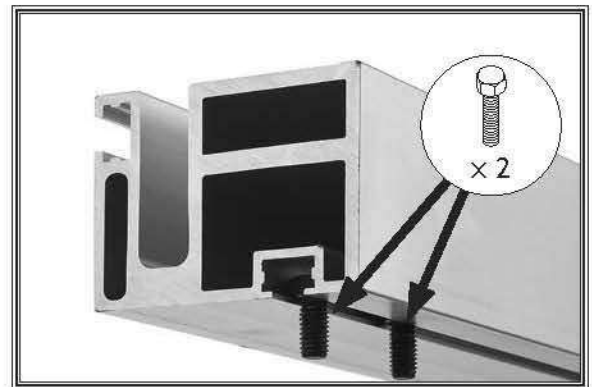

Figure 21. Location of hex bolts for mounting switch.
10. Remove (2) M8-1.25 × 16 hex bolts from switch, then remove tap screw and end cap from left end of fence rail. Insert hex bolts into bottom slot on left end of fence rail (see Figure 21). These bolts will be used later for mounting the switch.